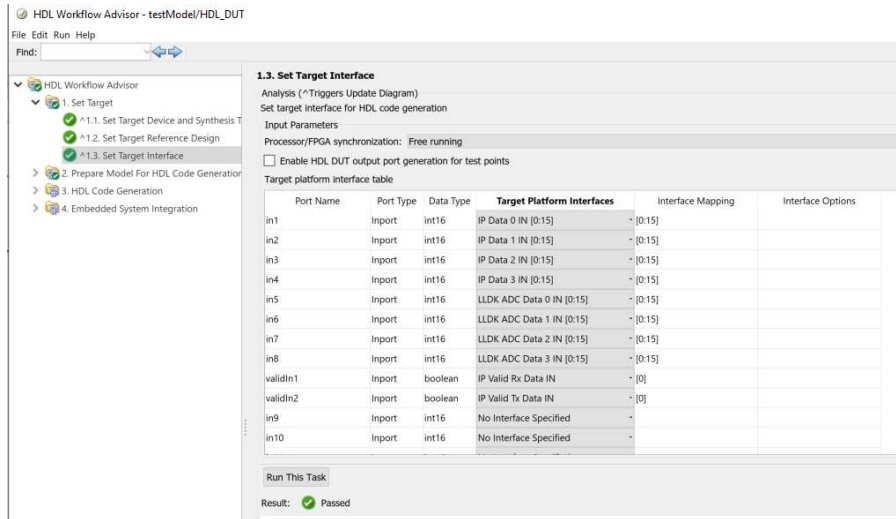
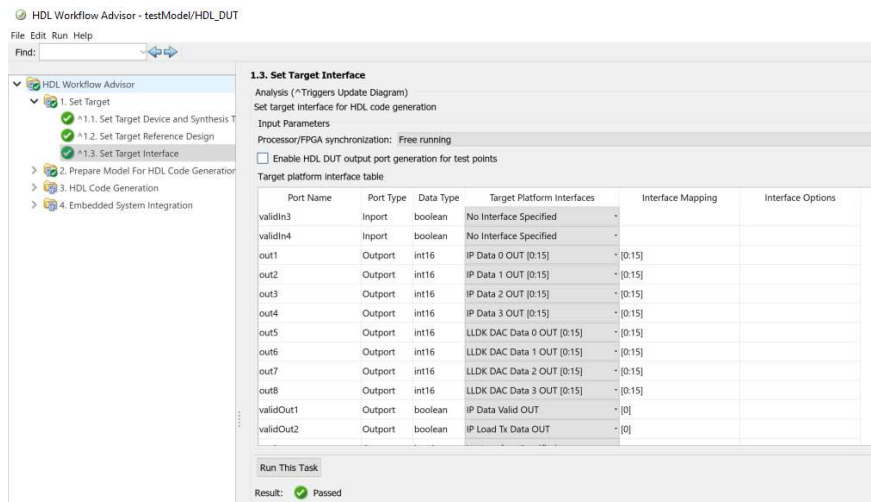

Figure 11. Set Target Interface Input Ports (Rx & Tx Reference Design)
Figure 12. Set Target Interface Output Ports (Rx & Tx Reference Design)
1.3 At this point you need to assign every port, as shown in Figure 11 and Figure 12, and run the task.